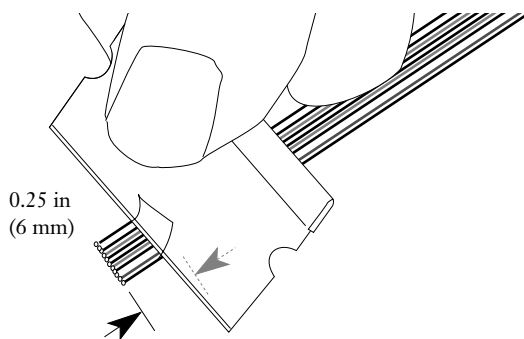

Figure 12
**6.13** At the ribbon end, use a razor blade to shave off 0.25 in. (6 mm) of the bond material on one side of the ribbon (Figure 12).